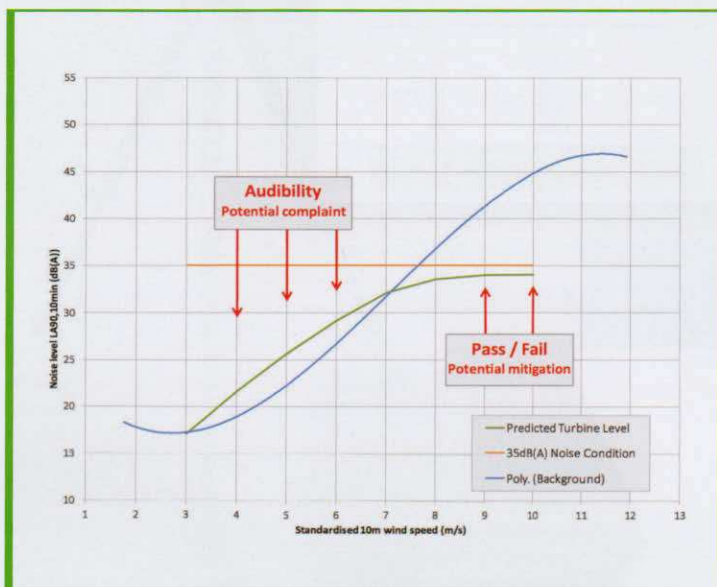

Figure 4 – Noise level v standardised 10m wind speed showing predicted turbine noise, the 35dB(A) noise condition and a typical background noise profile
Figure 4 highlights the difference between wind speeds at which turbine audibility (and potential amplitude modulation effects) could be occurring, and those typically most critical for demonstrating planning compliance with a simplified 35dB(A) condition.